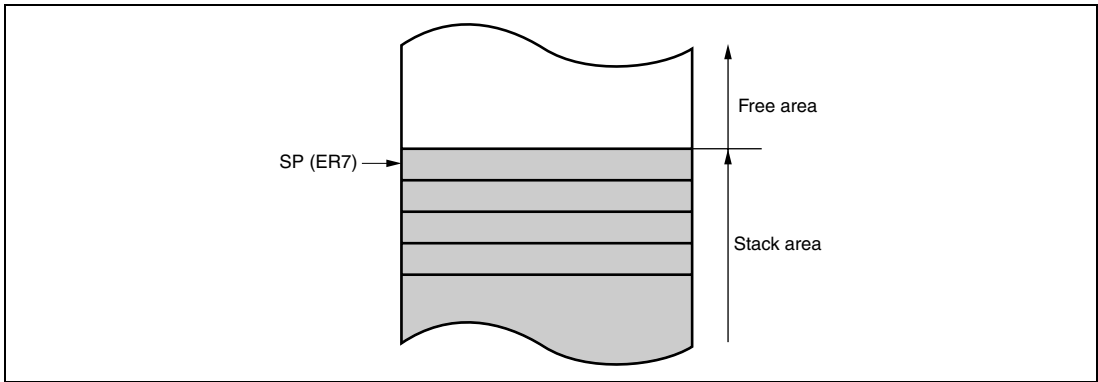

Figure 2.8 Stack
General register ER7 has the function of stack pointer (SP) in addition to its general-register function, and is used implicitly in exception handling and subroutine calls. Figure 2.8 shows the stack.